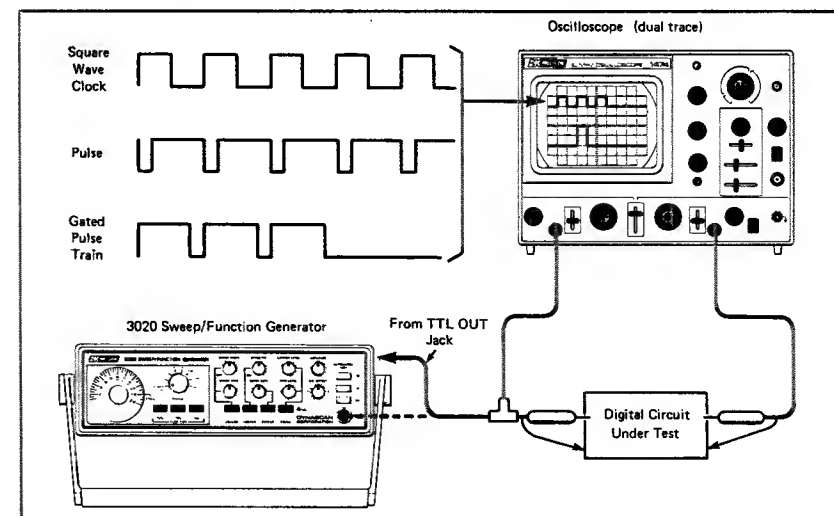

Fig. 19. Testing digital logic circuits.
1. Connect the equipment as shown in Fig. 19.